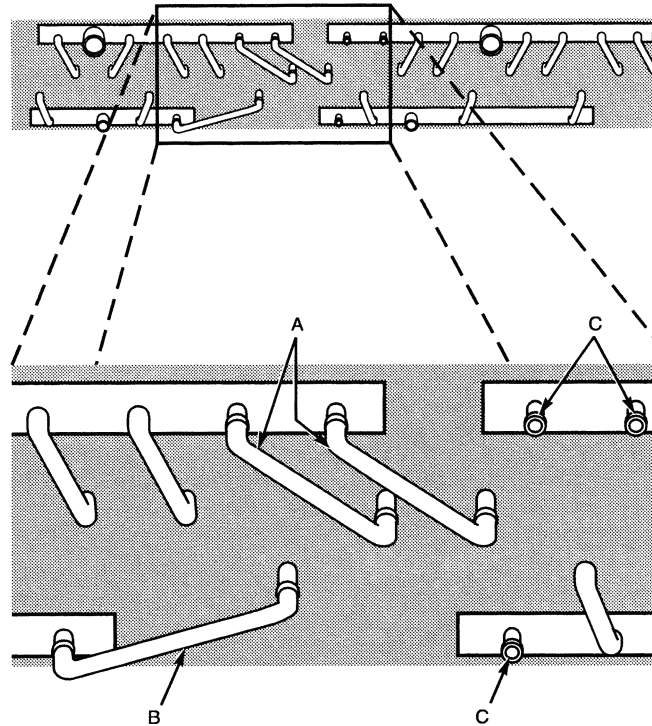

Fig. 6 — Parts Removed from 09DK020,024 (50/50%) Unit for 67/33% Circuiting
- a. Both $\frac{3}{8}$ -in. diam tube nipples connecting the left hot gas header to the coil. See Fig. 6, Item A.
- b. The $\frac{3}{8}$ -in. diam tube nipple connecting the left liquid header to the coil. See Fig. 6, Item B.
- c. Caps, where 2 are located on the right gas header, and one is located on the right liquid header. See Fig. 6, Item C.